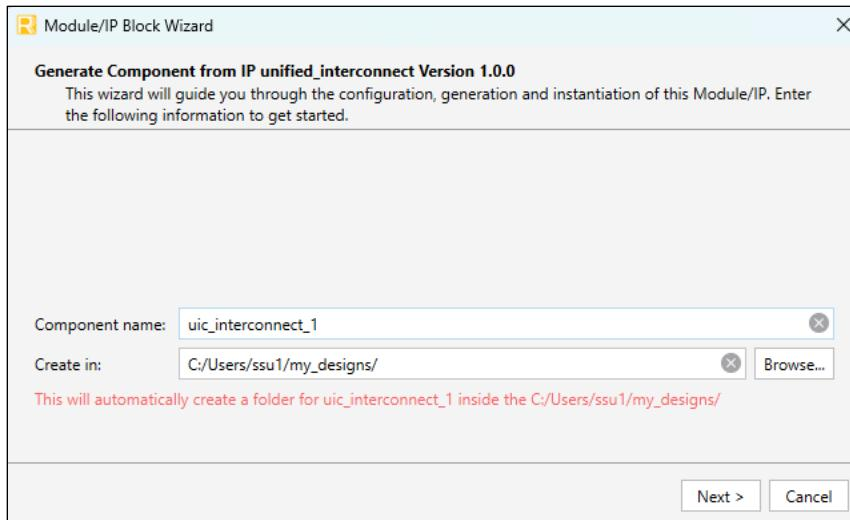

Figure 5.1. Module/IP Block Wizard
7. Click **Finish**. All generated files are placed in the directory specified by the **Component name** and **Create in** fields shown in Figure 5.1.